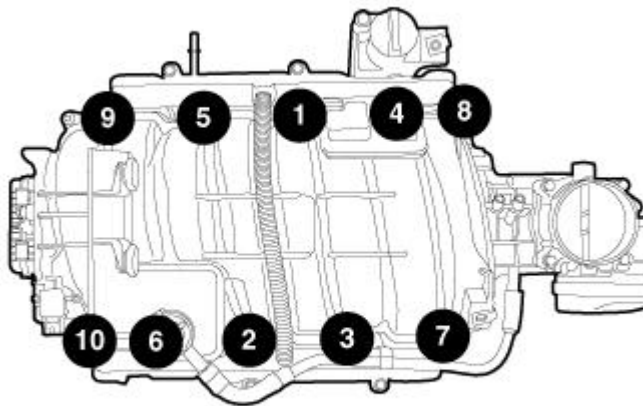

Fig. 263: Intake Manifold Retaining Bolt Removal & Tightening Sequence
24. Using the sequence shown in illustration, loosen the intake manifold retaining fasteners (10 fasteners). See **Fig. 263**.